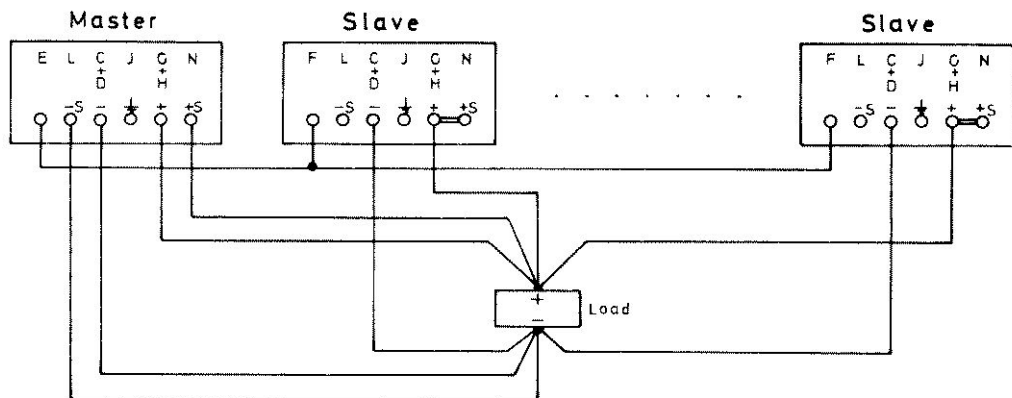

Figure 13
1. Connect all RACPAC'S according to figure 13.